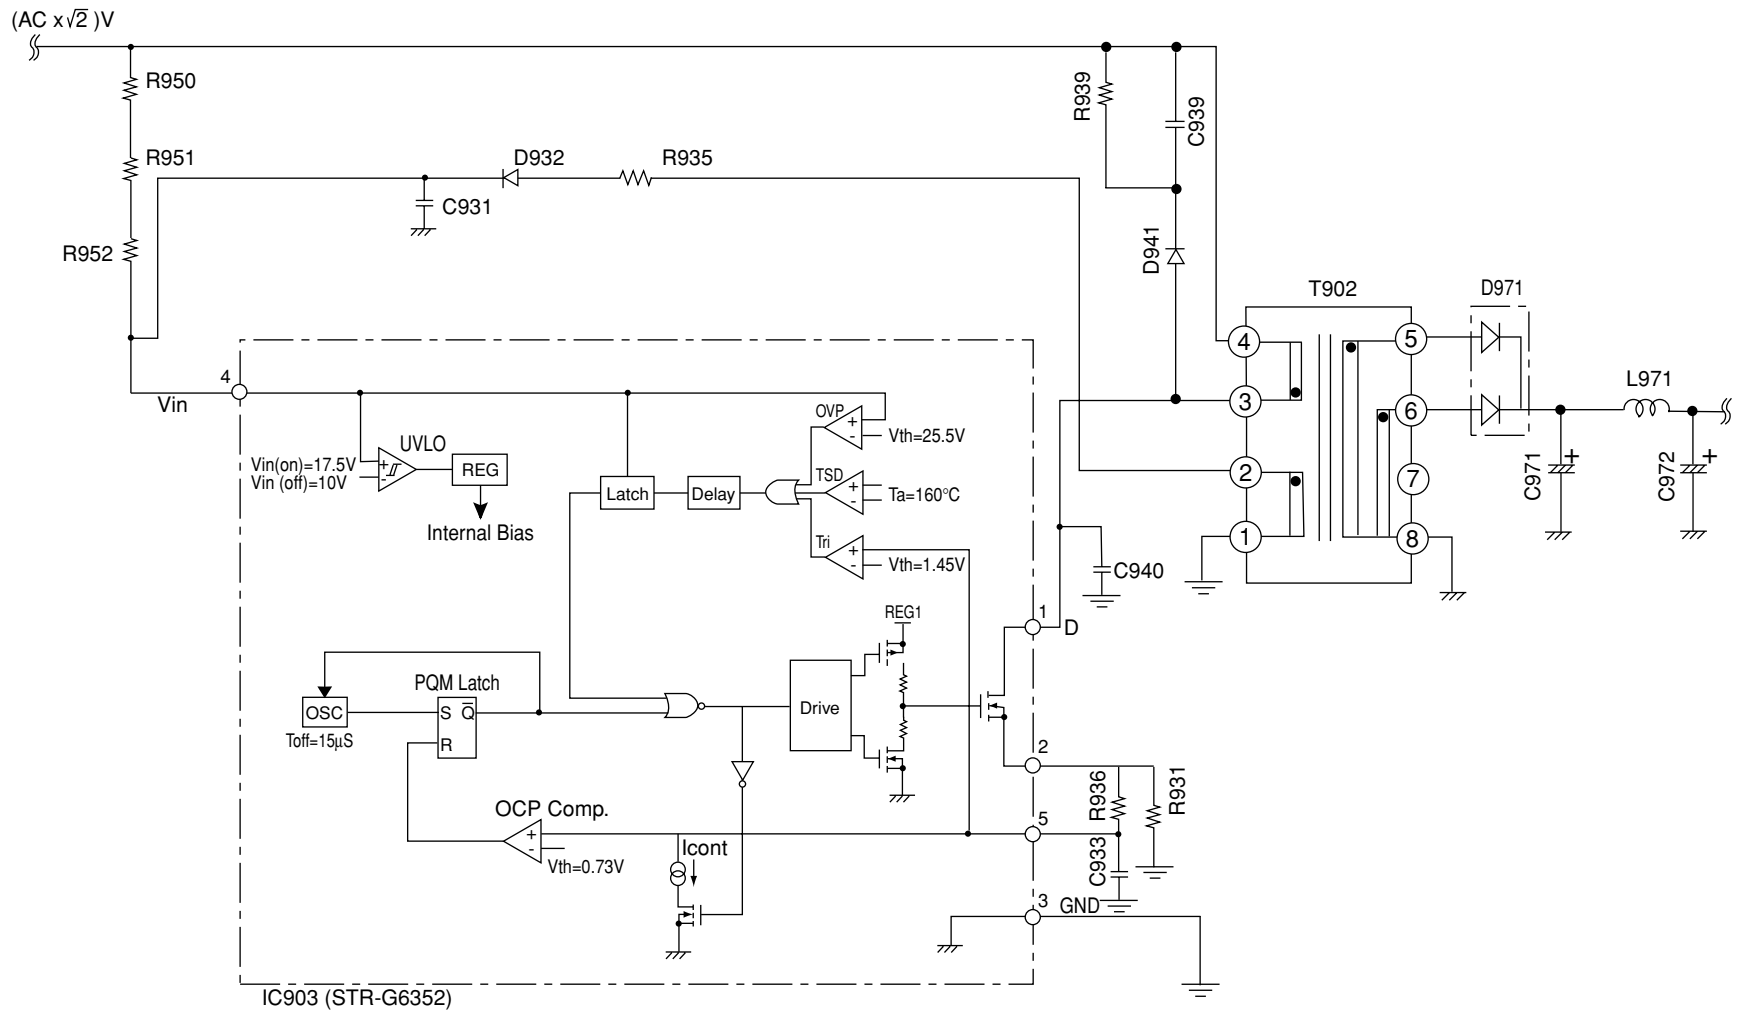

Figure 3. IC903 (STR-G6352) block diagram and peripheral circuit
- (1) The sub power uses PRC control regulator STR-G6352 (IC903) produced by Sanken Electric. (See Fig.3)
- (2) When the power switch is turned ON, the rectified and smoothened DC voltage (AC voltage $\times \sqrt{2}$) is supplied to pin4 of IC903, through R950, R951 and R952. When pin4 reaches approx. 17V, the built-in output FET is put into operation. (Since Q902 is OFF, IC902 and IC 903 do not operate.)
- (3) This also induces the voltage at pin2 of T902 and on the secondary side. These outputs are respectively rectified, and are used as the power for control on the primary side and the power for the MPU.
- (4) IC903 monitors +5V and -15V output on the secondary side by IC922 (Shunt regulator), and suppresses the voltage regulation by feeding back to pin 5 of IC903 via IC912 (Photocoupler).
- (5) When the voltage on the secondary side starts, the MPU will be put into operation and the P-SUS signal line will become HIGH.
- (6) This information is transmitted to the primary side via IC913 to turn ON Q902.